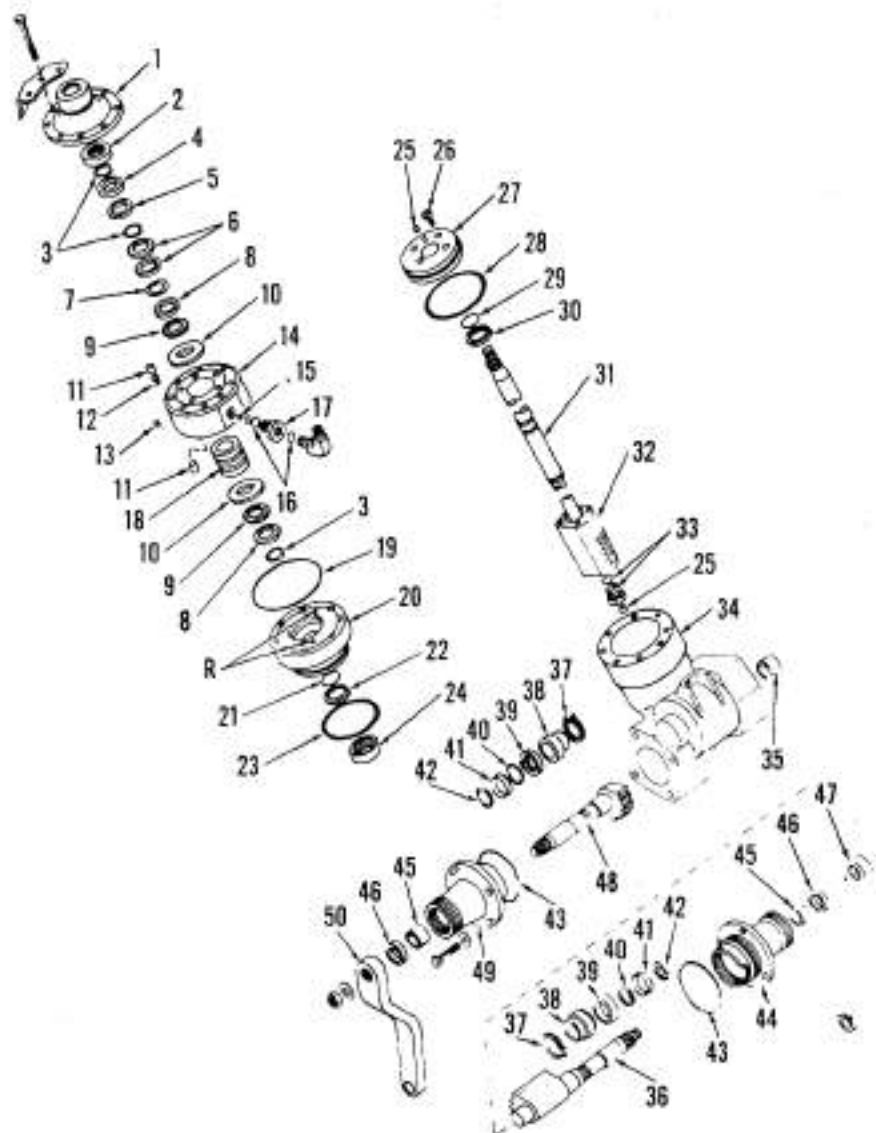

Fig. 12—Exploded view of power steering gear available on all MF230 models, all MF235 models except Orchard and MF245 Vineyard models.
**12. OVERHAUL.** To overhaul the removed unit, unbolt right side pinion housing (49—Fig. 12) and remove pitman shaft (48), housing (49) and related parts. Turn unit over and drain oil from housing, then unbolt and remove the left pinion housing (44), pitman shaft (36) and related parts. Mark control valve head (1), valve body (14), bearing housing (20) and steering gear housing (34) before disassembly to facilitate correct reassembly. Unbolt and remove control valve housing, head, bearing housing, steering shaft and rack unit. Unscrew piston (27) and rack (32) as a unit from shaft (31), then remove bearing housing (20).
To disassemble control valve and steering shaft, use caution and carefully identify parts as they are removed. Some parts used may be slightly different than shown in Fig. 12. Remove top snap ring (3), washer (4) and seal (5). Remove second snap ring (3) and lift parts (6, 7, 8, 9 and 10) from shaft. Remove valve body (14) from valve spool (18). Be careful not to lose or damage parts of plungers (11). Remove return fitting and adapter (17), being careful not to lose check ball (15).
Inspect all parts for wear or damage and renew if necessary. Install new seal (2—Fig. 12) in head (1) with lip of seal towards valve body and end of seal flush with edge of housing bore. Press new bushings (35 and 45) into housings until flush to 0.8 mm (1/32 inch) below flush with outer edge of bore. Lips of seals (46) should face inward. Some models use a washer and snap ring to retain seals (46) in housings. When renewing "O" rings (21 and 29) and seals (22 and 30) in bearing housing, be sure "O" rings are installed under the seal rings.
to place. Install washer (4—Fig. 12) with chamfer down over snap ring. Install top snap ring (3). Remove piston and rack from shaft.
Assemble parts (37, 38, 39, 40, 41 and 42—Fig. 12) onto pitman shafts before installing shafts into pinion housing. Adjust thickness of shims (40) as necessary to remove all end play from bearing (39).
Adjust gear backlash as follows: Rotate the right pinion housing (49—Fig. 12)